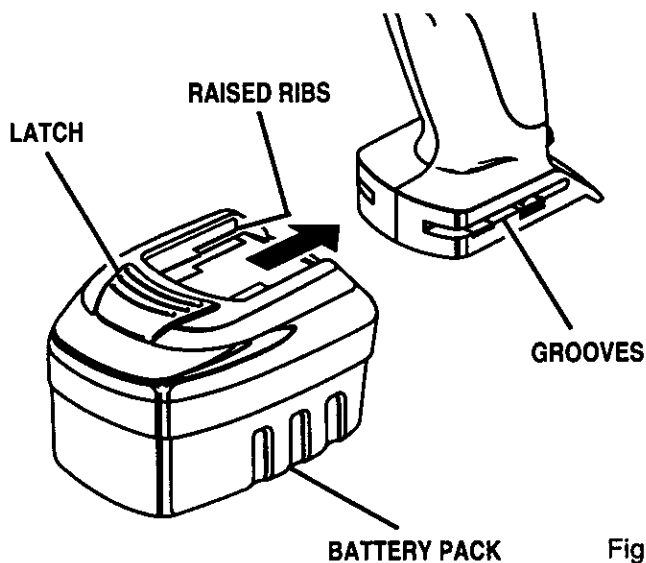

Fig. 3
See Figure 3.
- Align raised ribs on battery pack with grooves on bottom of drill, then attach battery pack to drill as shown in Figure 3.